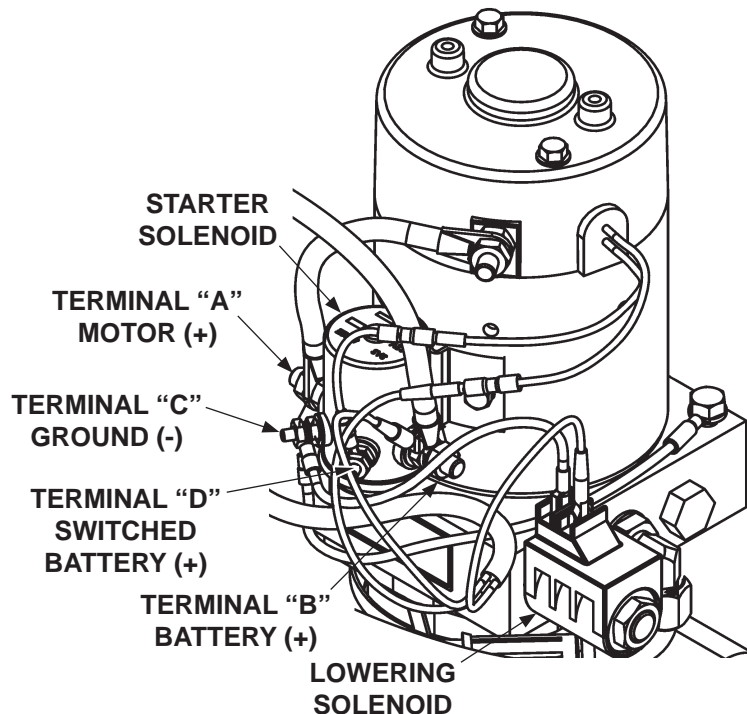

FIG. 48-1
1. Use voltmeter to verify power is being supplied to solenoid terminal "B" (**FIG. 48-1**). Recharge the battery if there is less than 12.6 volts.
3. Touch a jumper wire to terminals "B" & "D" (**FIG. 48-1**). If motor runs, check switch, switch connections, and white wire. Check and correct wiring connections or replace the switch.
4. Touch heavy jumper cables to terminals "A" & "B" (**FIG. 48-1**).